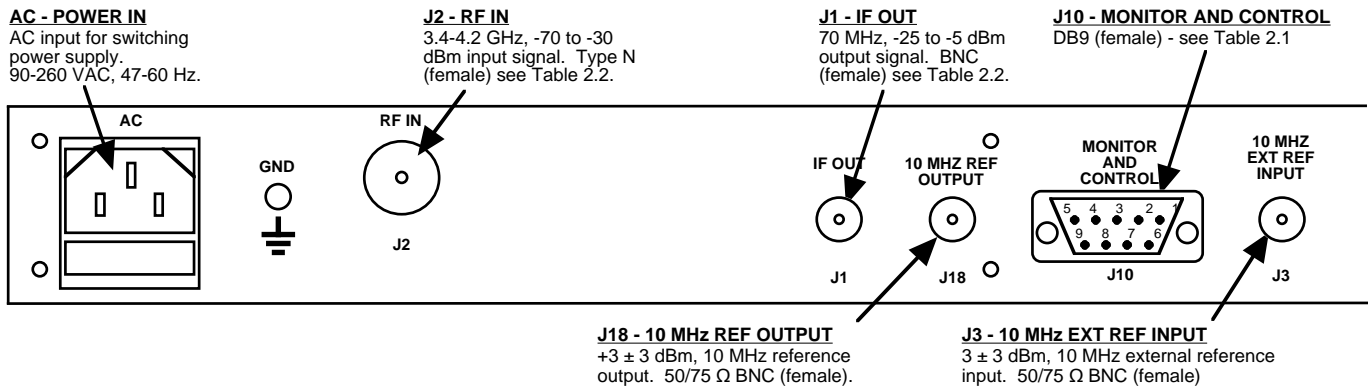

FIGURE 2.2 2016-34 Rear Panel I/Os
Figure 2.2 shows the input and output connectors on the rear panel.
1. Connect a -70 dBm to -30 dBm signal to RF IN, J2 (Figure 2.2)